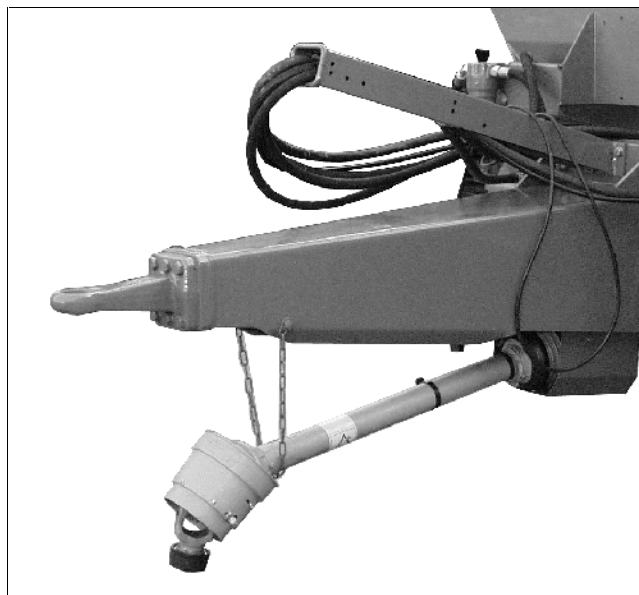

Fig. 17
3. The guard tubes for the PTO shaft have chains (Fig. 17) that are to be attached to the tractor and the **ZG-B**. These chains prevent the guard tubes from spinning with the PTO shaft. Attach the chains to the holes provided so that the PTO shaft still has sufficient room for movement in all operational positions and so that the guard tube does not spin when the shaft is in operation.